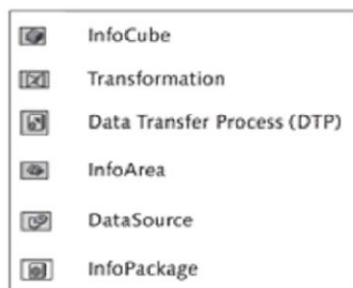

Figure 2.10 Icons for Various Objects in DWW
By default, DWW opens with the Modeling option. Different suboptions are available under Modeling, which are different types of objects that can be modeled in DWW. If you select the InfoProvider option, the right side displays the InfoProvider tree (❸ of Figure 2.9), which consists of different objects associated with InfoProviders. Each object has a description and a unique technical name. In SAP NetWeaver BW, different icons are used to represent different objects. Some of these icons are shown in Figure 2.10.